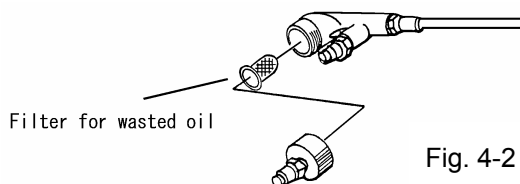

Fig. 4-2
2. The filter for the wasted oil is attached on the base of the flexible nozzle. Remove it in the same manner and clean it. (See Fig. 4-2.)